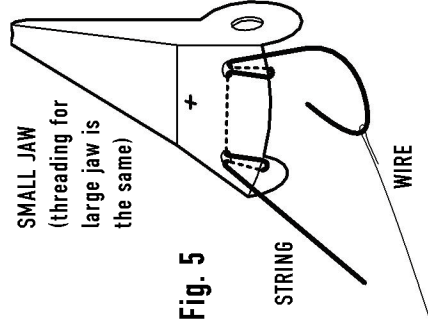

Fig. 5
- 9) Cut out and fold the jaw and glue together at E locations (see Fig. 5).
- 10) When the glue is dry, thread a piece of string through the jaw (see Fig. 5) so there is an equal amount of string on either side. Use the provided piece of wire as a needle, twisting the end to form the eye. If you have a yarn needle you can use that instead.